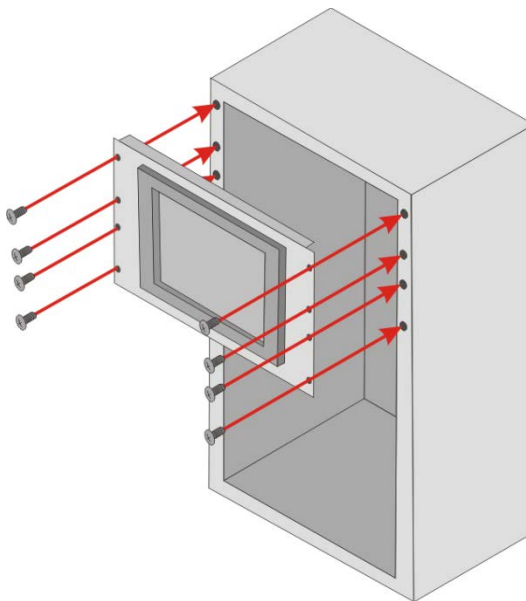

Figure 3-20: Install into a Rack/Cabinet
Step 6: Slide the panel PC with the attached rack/cabinet bracket into a rack or cabinet (Figure 3-20).
Step 7: Once the panel PC with the attached rack/cabinet bracket has been properly inserted into the rack or cabinet, secure the front of the rack/cabinet bracket to the front of the rack or cabinet (**Figure 3-20**).